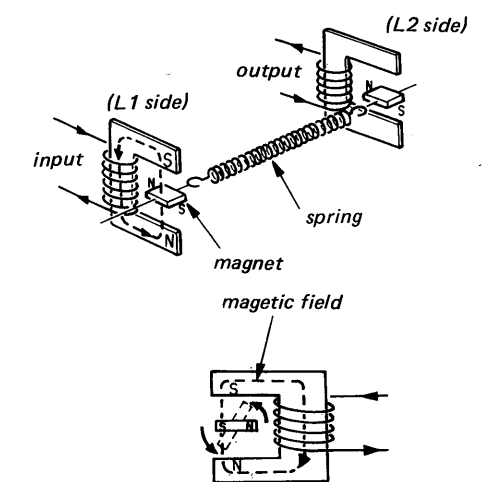

Fig. 2
Fig. 2 illustrates the basic operating principle which employs a moving-magnet (MM)-type converter element.
When a signal is applied to the base of Q303, the amplified signal flows through L1, and a magnetic field will be generated as shown in Fig. 2, resulting in the L1 magnet being forced to rotate in a certain direction. The spring connected to the L1 magnet will also be forced to move in concert with the L1 magnet. But since the other end of this spring is connected to L2 magnet (again see Fig. 2), the current change in L1 will be transferred via the spring to L2. The movement of the L2 magnet then induces an electric current in the coil (in the same way as in a moving-magnet type cartridge), resulting in the voltage being applied to Q304. The time taken to transfer the signal from L1 to L2 is approx. 25 m sec.